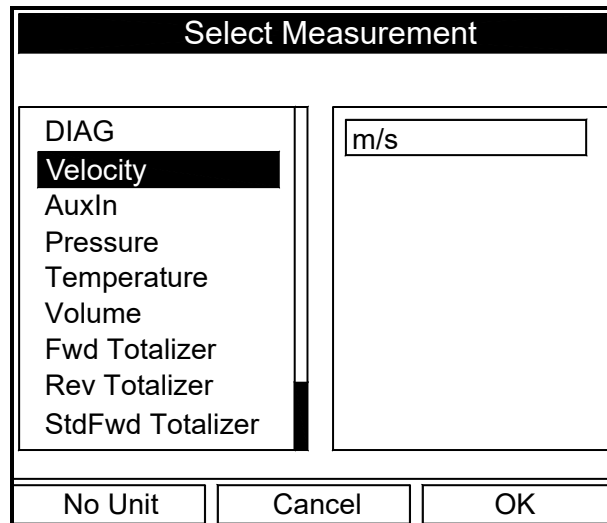

Figure 26: Data Source Selection Window
2. Scroll to the next prompt and select the Data Source measurement type from a list of choices (see Figure 26 below).
- e. Press **[F3]** (OK) to confirm your selection.